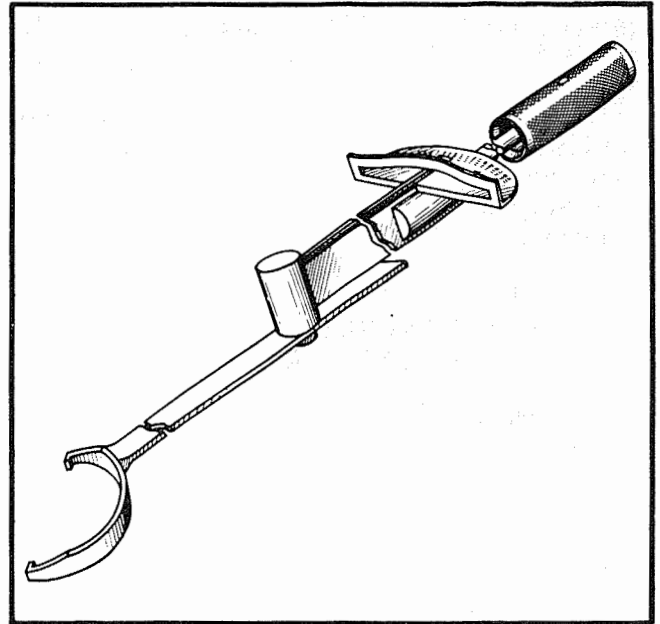

Figure 7-48. Intake Pipe Connection Nut Wrench with Torque Handle
e. Torque the connection nuts using wrench 805569 with a torque handle inserted in the wrench to become an extension as shown in figure 7-48.